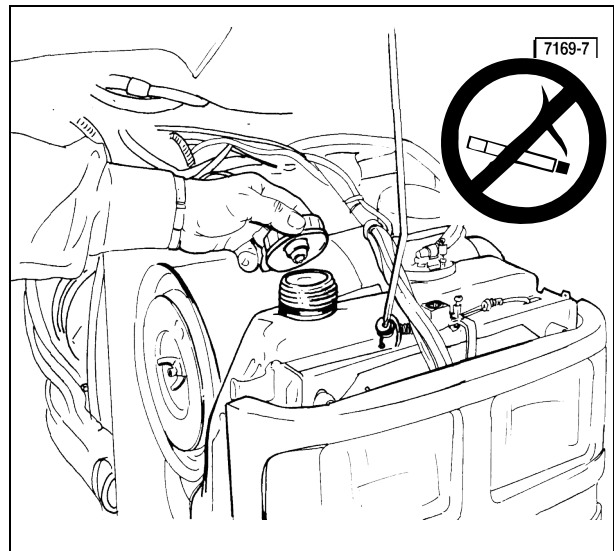

Fig. 10
- **DO NOT** smoke while refuelling the tractor. Keep any type of open flame away (Fig. 10).